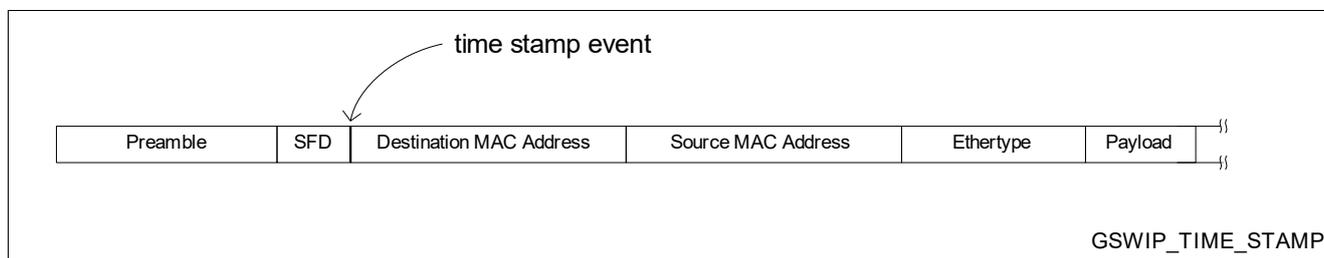

**Figure 44 Magic Packet Data Structure – Password Protection**
**Figure 44** shows the frame structure of a typical Layer-2 password-protected WoL frames.